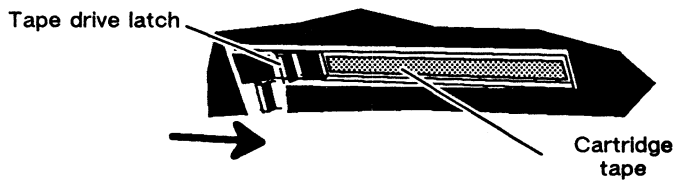

Figure 5-4 Securing the Tape Drive Latch
- b. Push the tape cartridge(s) entirely into the drive until the cartridge settles, and then slide the drive latch to the right to secure the cartridge tape in the drive. (See Figure 5-4.)